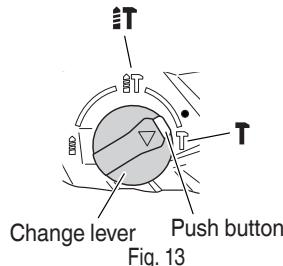

Fig. 13
- (1) Mount the bull point, cold chisel, or other tool bit.
- (2) Press the push button and set the change lever to middle of **H** mark and **T** mark. (Fig. 13)